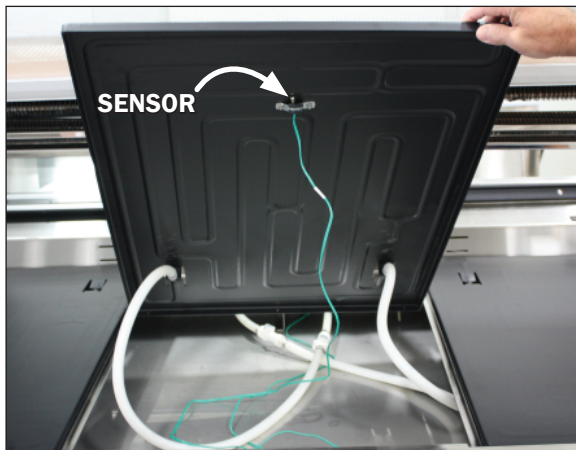

Fig. 4 Coolgenix pan sensor
1. The center deck pan and shelving (if applicable) have a pan sensor connected to the underside (Fig. 4). Not every pan will have this sensor. Check the underside of each pan to see which pan(s) have this sensor.